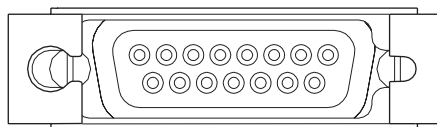

Figure 4-8. Ethernet Port (12x Models)
- 5** If you have an Ethernet port, replace the bracket. See Figure 4-8 on page 4-7 for reference.
- 5** Replace the bracket on the Ethernet port, if present. See Figure 4-8 on page 4-7 for reference.